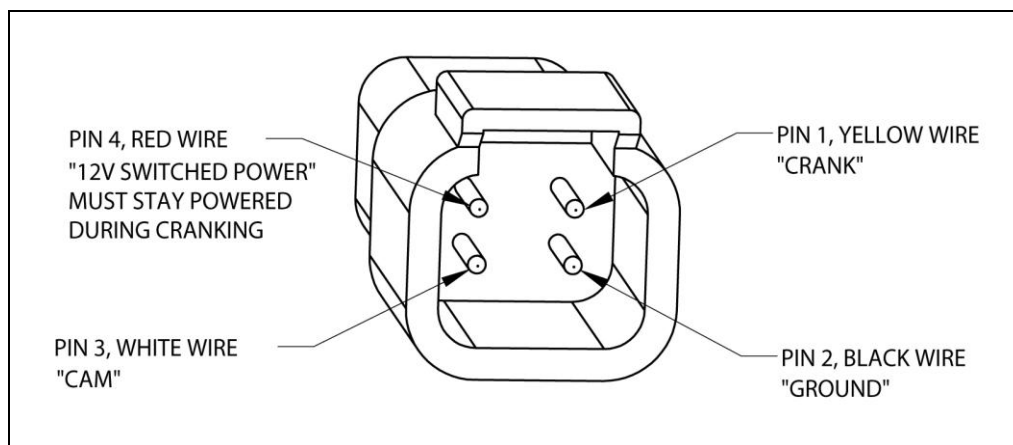

Figure 1. 4 Pin EPM Deutsch Connector, Wire Entry View
1. The EPM has a short cable with a 4 Pin Deutsch connector, supplied with the EPM is the mating connector housing with 5 crimp terminals. The connector pinouts are shown in figure 1.